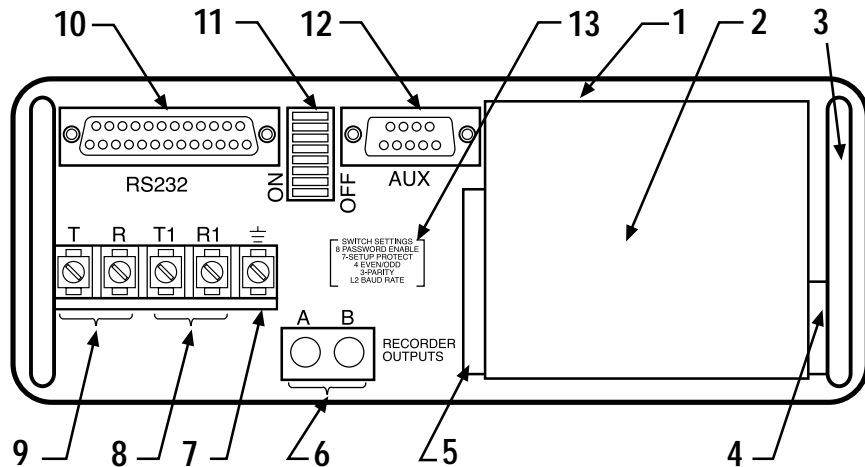

Figure 3-3. Rear Panel Components
The connections of this jack are the same as screw terminals T and R on the Rear Panel, item 10 in Figure 3-3.
The connections of this jack are the same as screw terminals T1 and R1 on the Rear Panel, item 9 in Figure 3-3.
The numbering of the descriptions below corresponds to the numbering of the components in Figure 3-3.
The RS232 port is required for printouts and external control of the AM5XT/eXT from a terminal or computer. The RS232 port makes possible additional functions and capabilities that cannot be done with the front panel controls alone. A unit equipped with this option has an RS232 connector (item 10 in Figure 3-3) on the rear panel. See Section 12 concerning RS232 port operation.
Voltages are delivered to rear panel Bantam Jacks, which are connected to an external plotter for hard copy graph of test results. A unit equipped with this option has two (2) Bantam Jacks (item 6 in Figure 3-3) on the rear panel. See ¶13.1 for details. This option is not available for an AM5XT-BASIC.